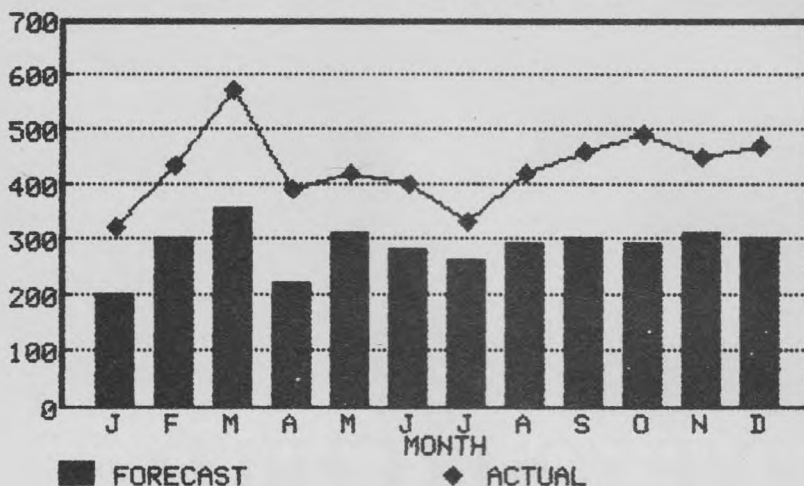

Fig. 2. Eighteen-line graph generated by PFS:Write.
- Graphs: If you have the PFS:Graph software package (sold separately and reviewed in this column last month), you can include a graph picture anywhere in your text just by naming it. Then, when you print (and knowing you'll need an IBM or Epson graphics printer, Okidata, IDS, NEC or C. Itoh machine to do it), the program automatically gives you an 18-line graph. (See Fig. 2).